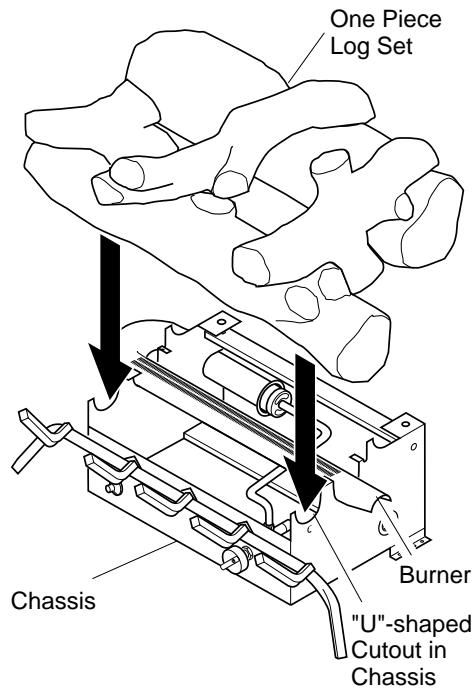

Figure 16 - Installing Heat Majic™ One-Piece Log Set
1. Place one-piece log set on grate to fit as illustrated in Figure 16. Make sure bottom of front log is in front of "U"-shaped cutout in center of chassis (see Figure 16). Log will fit securely on chassis. **IMPORTANT:** Make sure log does not cover any burner parts.